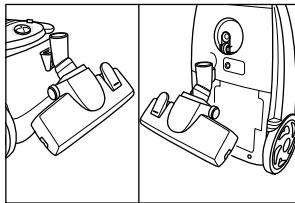

Fig. 7
- Store the appliance by inserting the attachments into the apposite compartment (G) on the top (FIG. 6) and positioning the floor brush (S) on the rear hook or the lower one (FIG. 7).